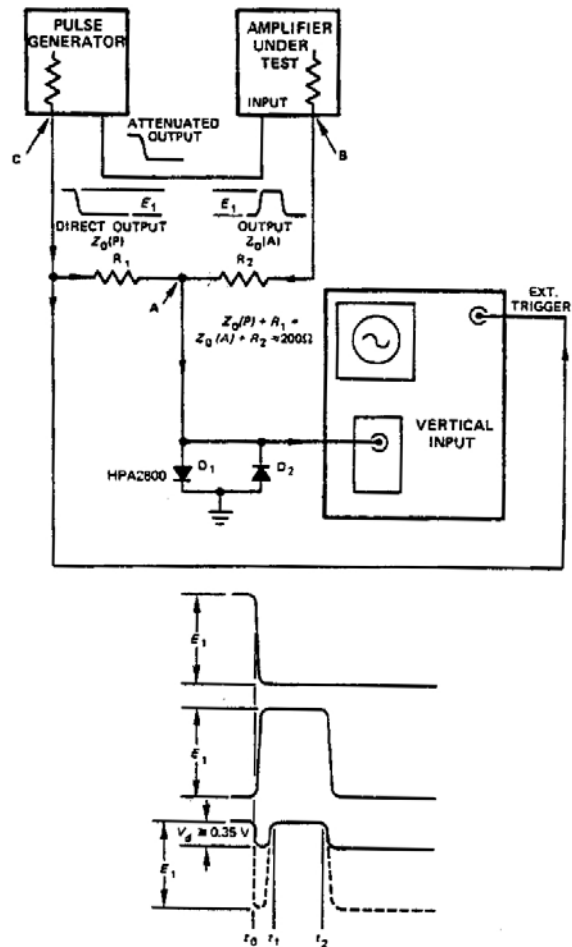

Fig. 6.1. Circuit Used to Measure Nonlinearity.
**LINEARITY** The integral nonlinearity of the 855 can be measured by the technique shown in Fig. 6.1. In effect, the negative pulser output is subtracted from the positive amplifier output to cause a null point that can be measured with excellent sensitivity. The pulser output must be varied between 0 to 10 V, which usually requires an external control source for the pulser. The amplifier gain and the pulser attenuator must be adjusted to measure 0 V at the null point when the pulser output is 10 V. The variation in the null point as the pulser is reduced gradually from 10 V to 0 V is a measure of the nonlinearity. Since the subtraction network also acts as a voltage divider, this variation must be less than
**OUTPUT LOADING** Use the test setup of Fig. 6.1. Adjust the amplifier output to 10 V and observe the null point when the front panel output is terminated in 100  $\Omega$ . The change should be <2.5 mV.